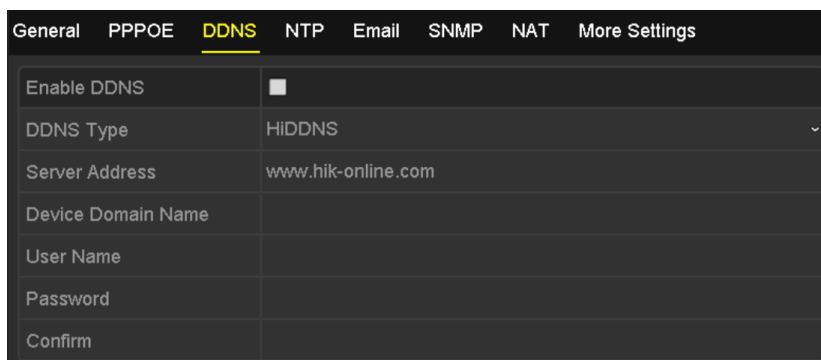

Figure 11. 3 DDNS Settings Interface
2. Select the **DDNS** tab to enter the DDNS Settings interface, as shown in Figure 11. 3.